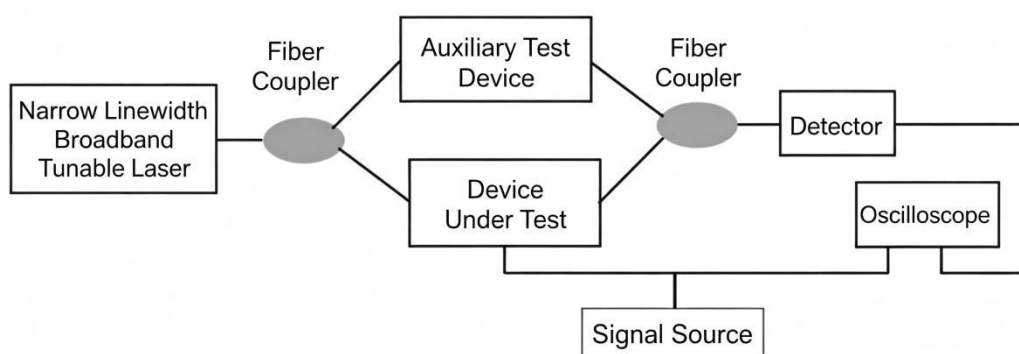

Figure 3-1 Block Diagram of the Test Setup for Half-Wave Voltage of the Phase Modulator
- a) Connect the test system as shown in Figure 3-1 to form an optical interferometer. The optical path difference between the two arms must be within the coherence length. Connect the signal generator, the DUT RF port, and oscilloscope Channel 1 through a tee.